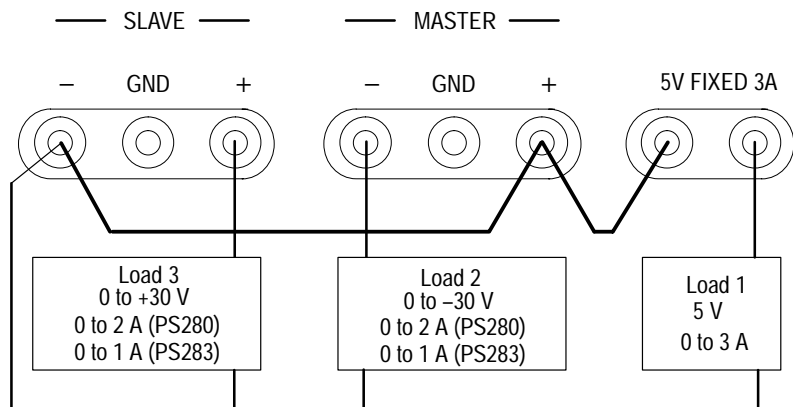

Figure 6: Independent Ground-Referenced Split Application
Figure 6 shows the PS280 or PS283 connected to produce separate outputs of +5 V from the FIXED power supply, 0 to +30 V from the slave variable power supply, and 0 to -30 V from the master variable power supply. In this configuration, the red output terminal of the master variable power supply is the negative reference terminal because it is directly connected to the ground terminal.
2. Connect the outputs as shown in Figure 6.